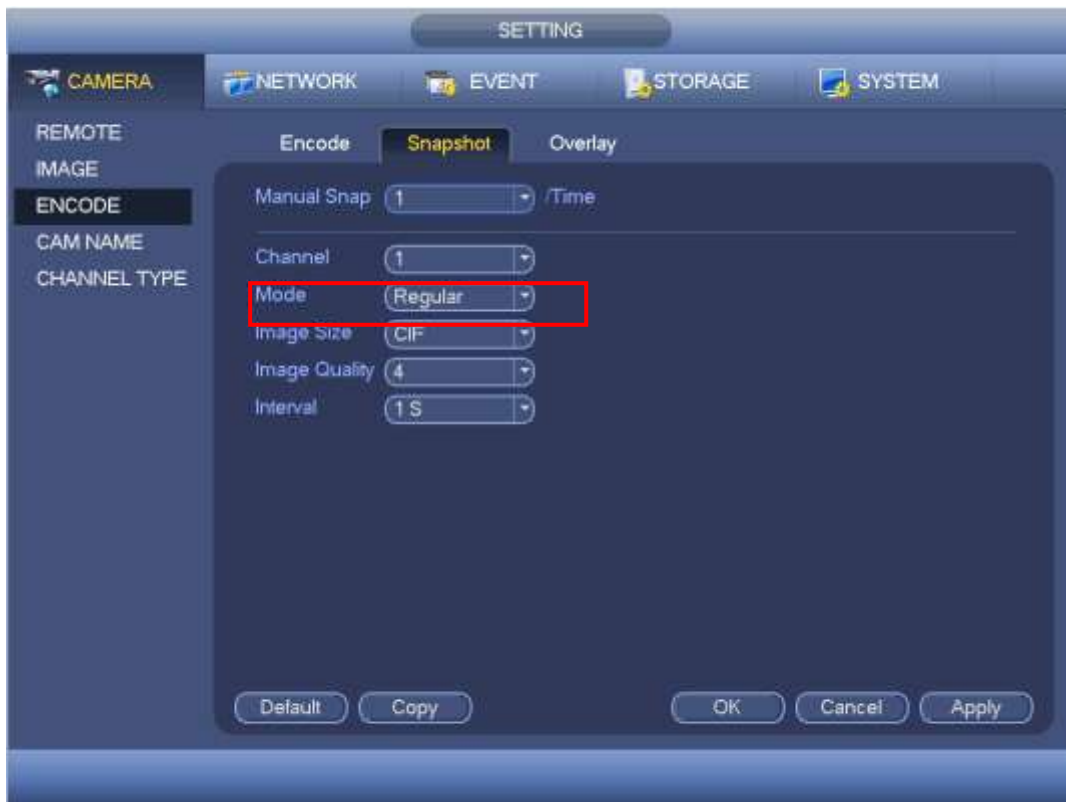

Figure 4-155
- In main menu, from Setting->Camera->Encode->Snapshot interface, here you can input snapshot mode as regular, size, quality and frequency. See Figure 4-155.